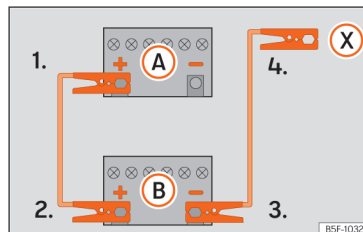

Fig. 54 Diagram of connections for vehicles without Start Stop system
2. Connect one end of the **red** jump lead to the positive (+) terminal of the vehicle with the flat battery (A) » » » Fig. 54.
3. Connect the other end of the **red** jump lead to the positive terminal (+) in the vehicle providing assistance (B).
- 4a. *In vehicles without a Start-Stop system:* connect one end of the **black** jump lead to the negative terminal (-) of the vehicle providing the current (B) » » » Fig. 54.